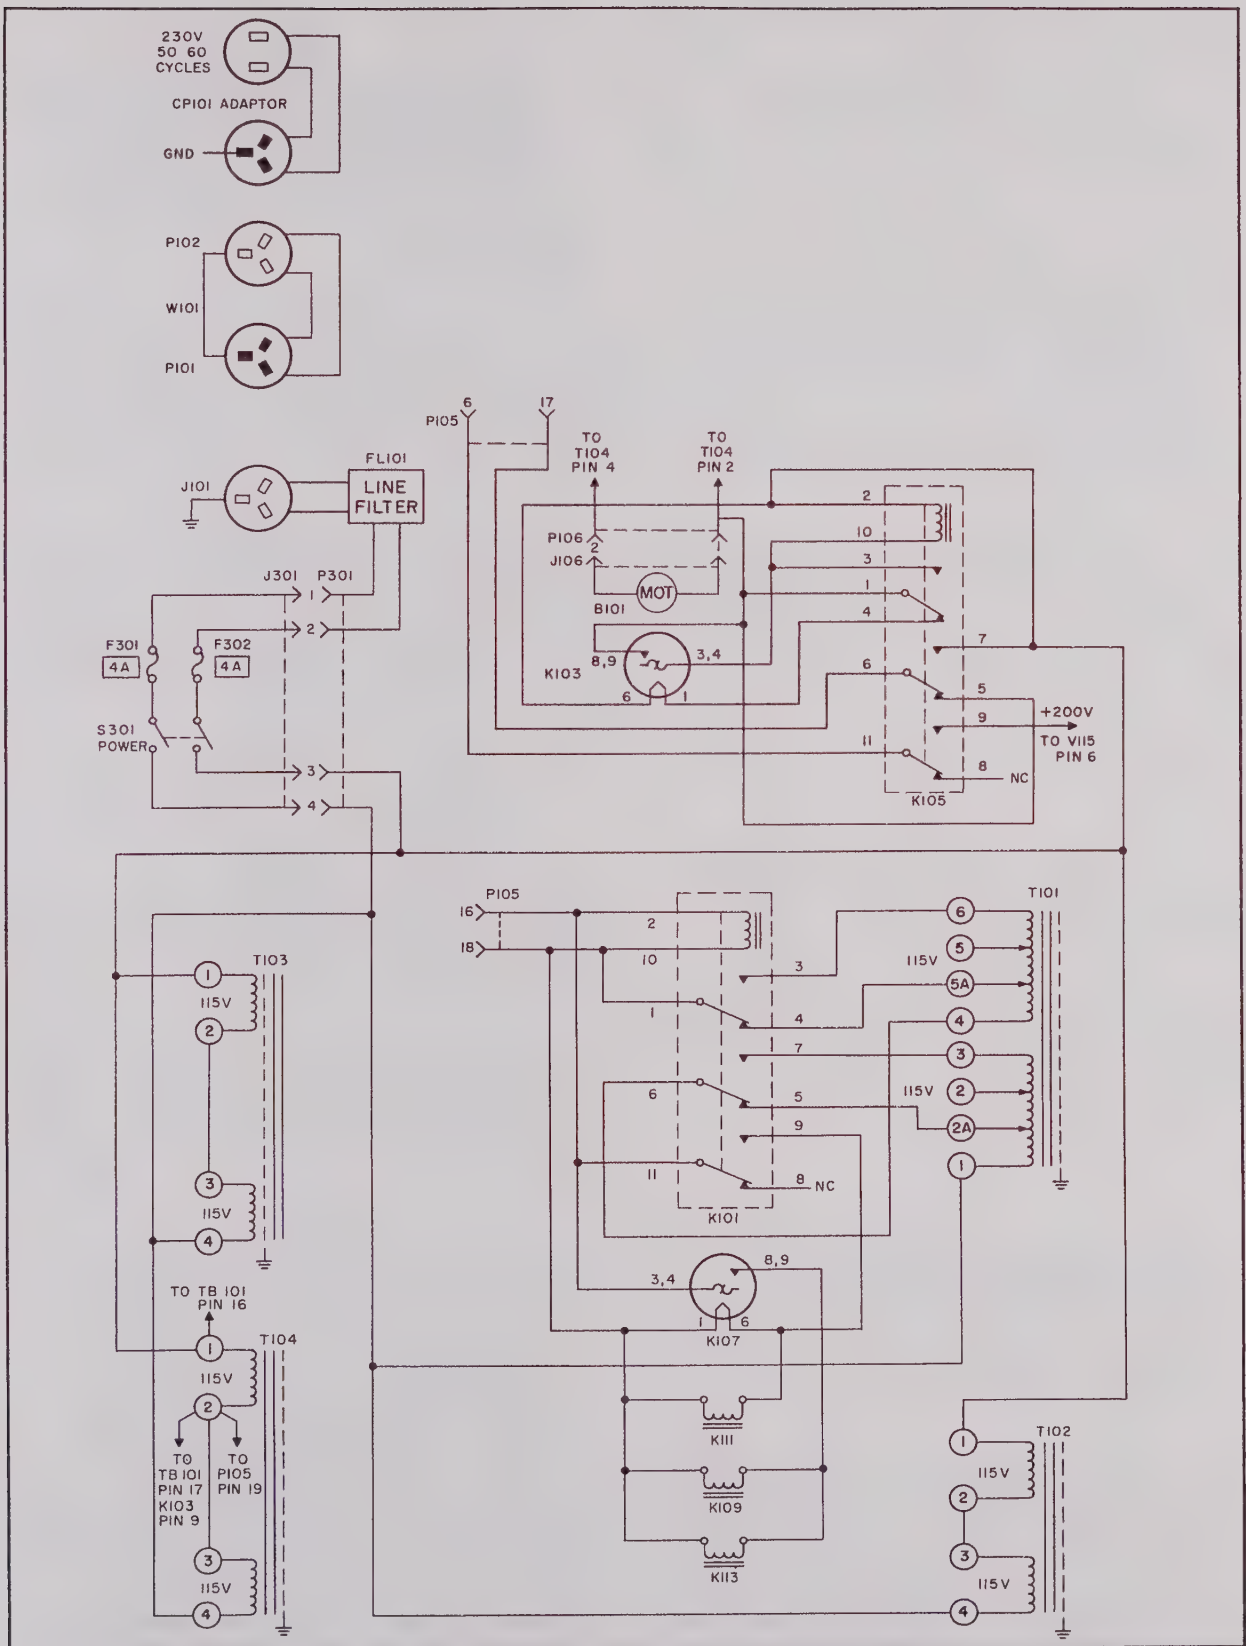

Figure II-4. Power Supply Conversion - 115 volt, 50-60 cps to 230 volt cps power line input.
a. **THE POWER SUPPLY** of the Spectrum Analyzer is factory wired for 115-volt, 50-60 cycle operation. The equipment is convertible to 230-volt, 50-60 operation by rewiring the power transformer primary connections. Refer to Figure II-4 for the proper connections to be made.